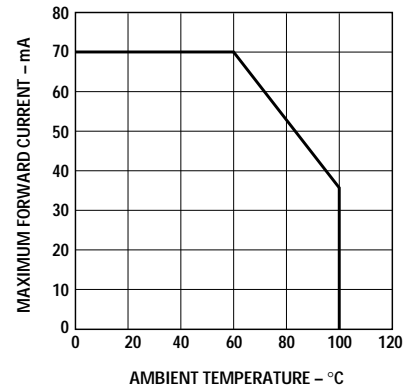

Figure 4. Maximum forward current vs. ambient temperature. Derated based on $T_J\text{MAX} = 125^\circ\text{C}$, $R\theta_{JA} = 300^\circ\text{C/W}$.
- Derate linearly as shown in figure 4.